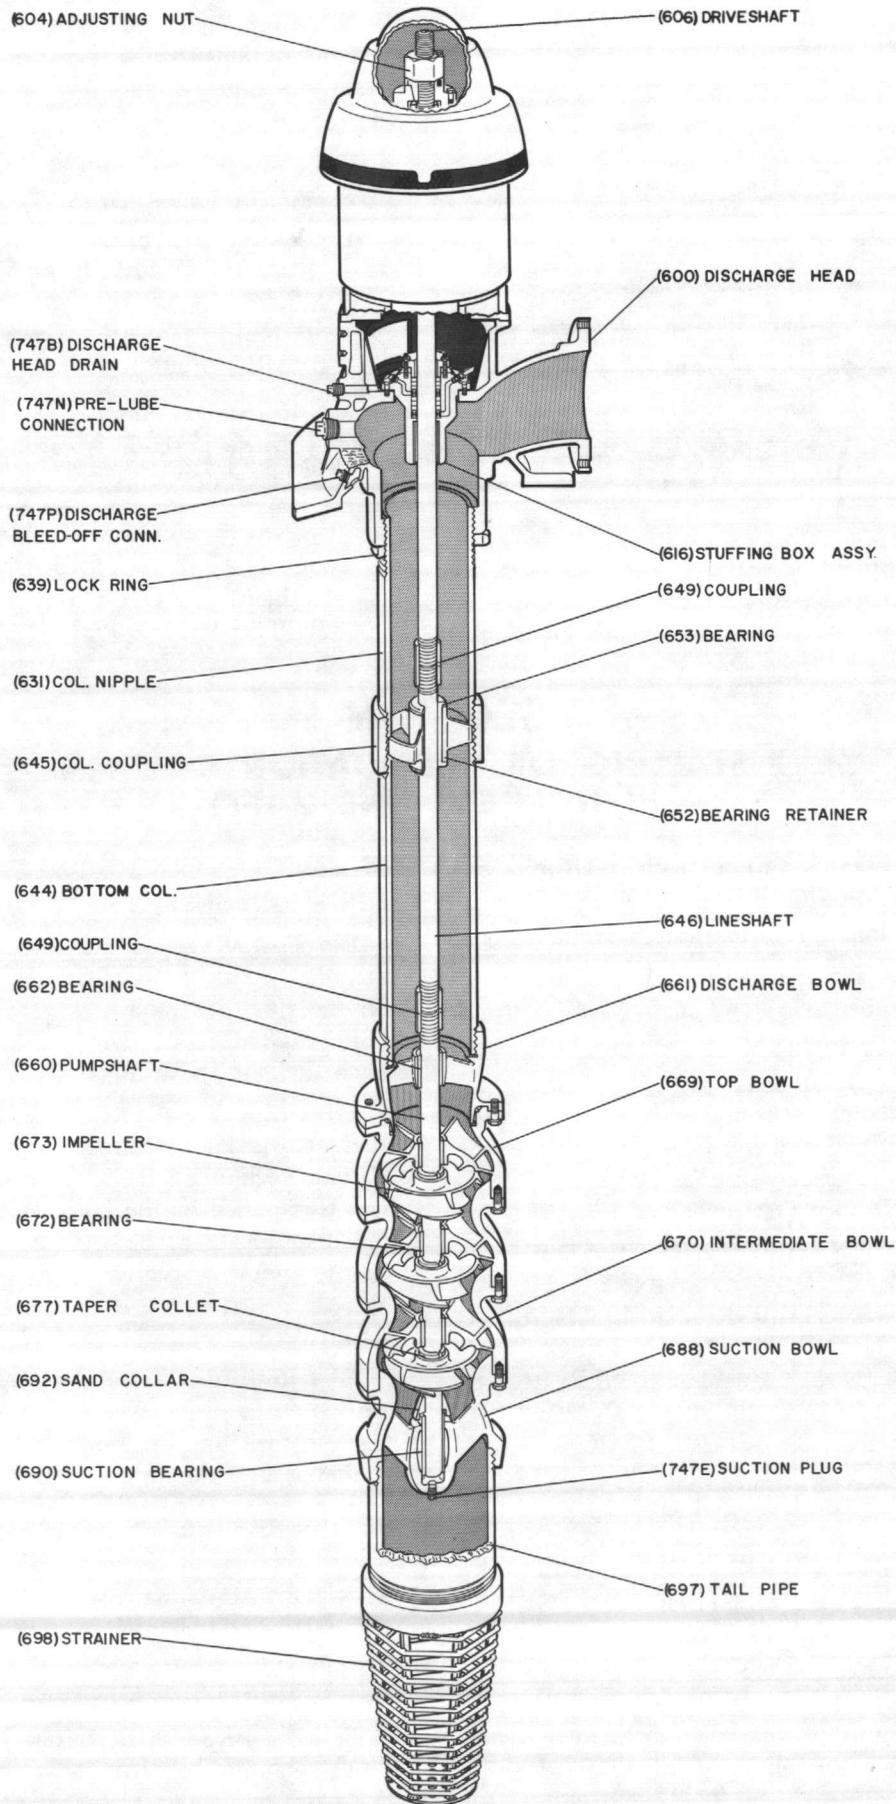

Figure 5-1 Product Lubrication Pump
C. If provided, install tail pipe (697). Place an elevator clamp just below the tail pipe threads. Attach a sling to the clamp and to hoist hook. Hoist over the well or sump and attach strainer (698) if provided. Lower tail pipe until clamp rests firmly on the supporting timbers. (SEE FIGURES 5-1 AND 6-1).
D. Attach and secure an elevator clamp just below and firmly butted against the top intermediate bowl flange (670). Attach a sling to the clamp and pass the loop end of the sling over the hoist hook. Guide the pump suction to prevent bumping or dragging and hoist the assembly over the well or sump opening.
G. If a suction strainer (698) is provided, assemble to suction bowl.
J. Place a cover over bowl assembly to prevent entrance of dirt or other foreign matter. Check to see that pump shaft coupling (649) is clean.
5-1. INSTALLING PRODUCT LUBRICATION COLUMN (SEE FIGURE 5-1).